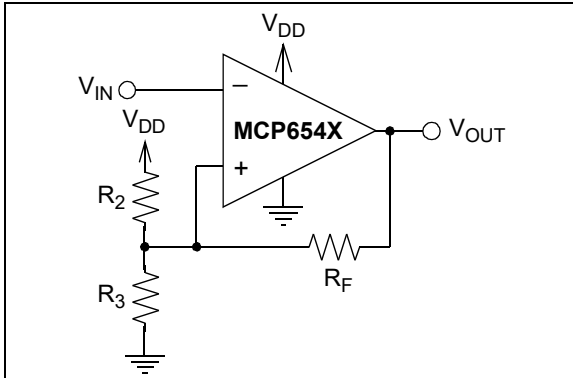
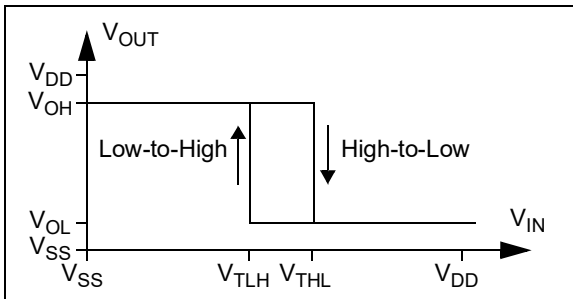
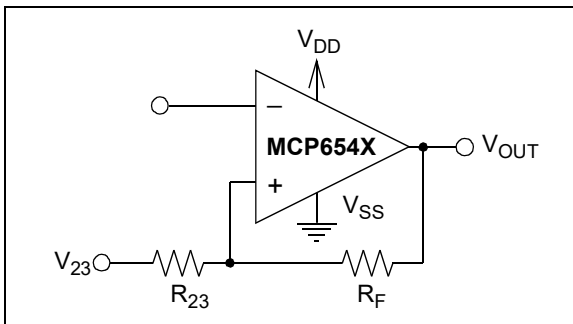
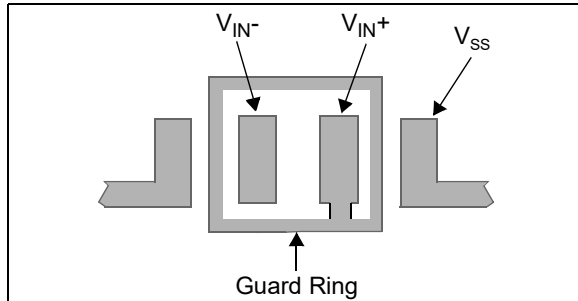

FIGURE 4-6: Inverting Circuit With Hysteresis.
FIGURE 4-7: Hysteresis Diagram for the Inverting Circuit.
FIGURE 4-8: Thevenin Equivalent Circuit.
FIGURE 4-9: Example Guard Ring Layout for Inverting Circuit.
Figure 4-6 shows an inverting circuit for single-supply using three resistors. The resulting hysteresis diagram is shown in Figure 4-7.
In order to determine the trip voltages (V_{THL} and V_{TLH}) for the circuit shown in Figure 4-6, R_2 and R_3 can be simplified to the Thevenin equivalent circuit with respect to V_{DD} , as shown in Figure 4-8.
The easiest way to reduce surface leakage is to use a guard ring around sensitive pins (or traces). The guard ring is biased at the same voltage as the sensitive pin. An example of this type of layout is shown in Figure 4-9.
1. Inverting Configuration (Figure 4-6 and Figure 4-9):